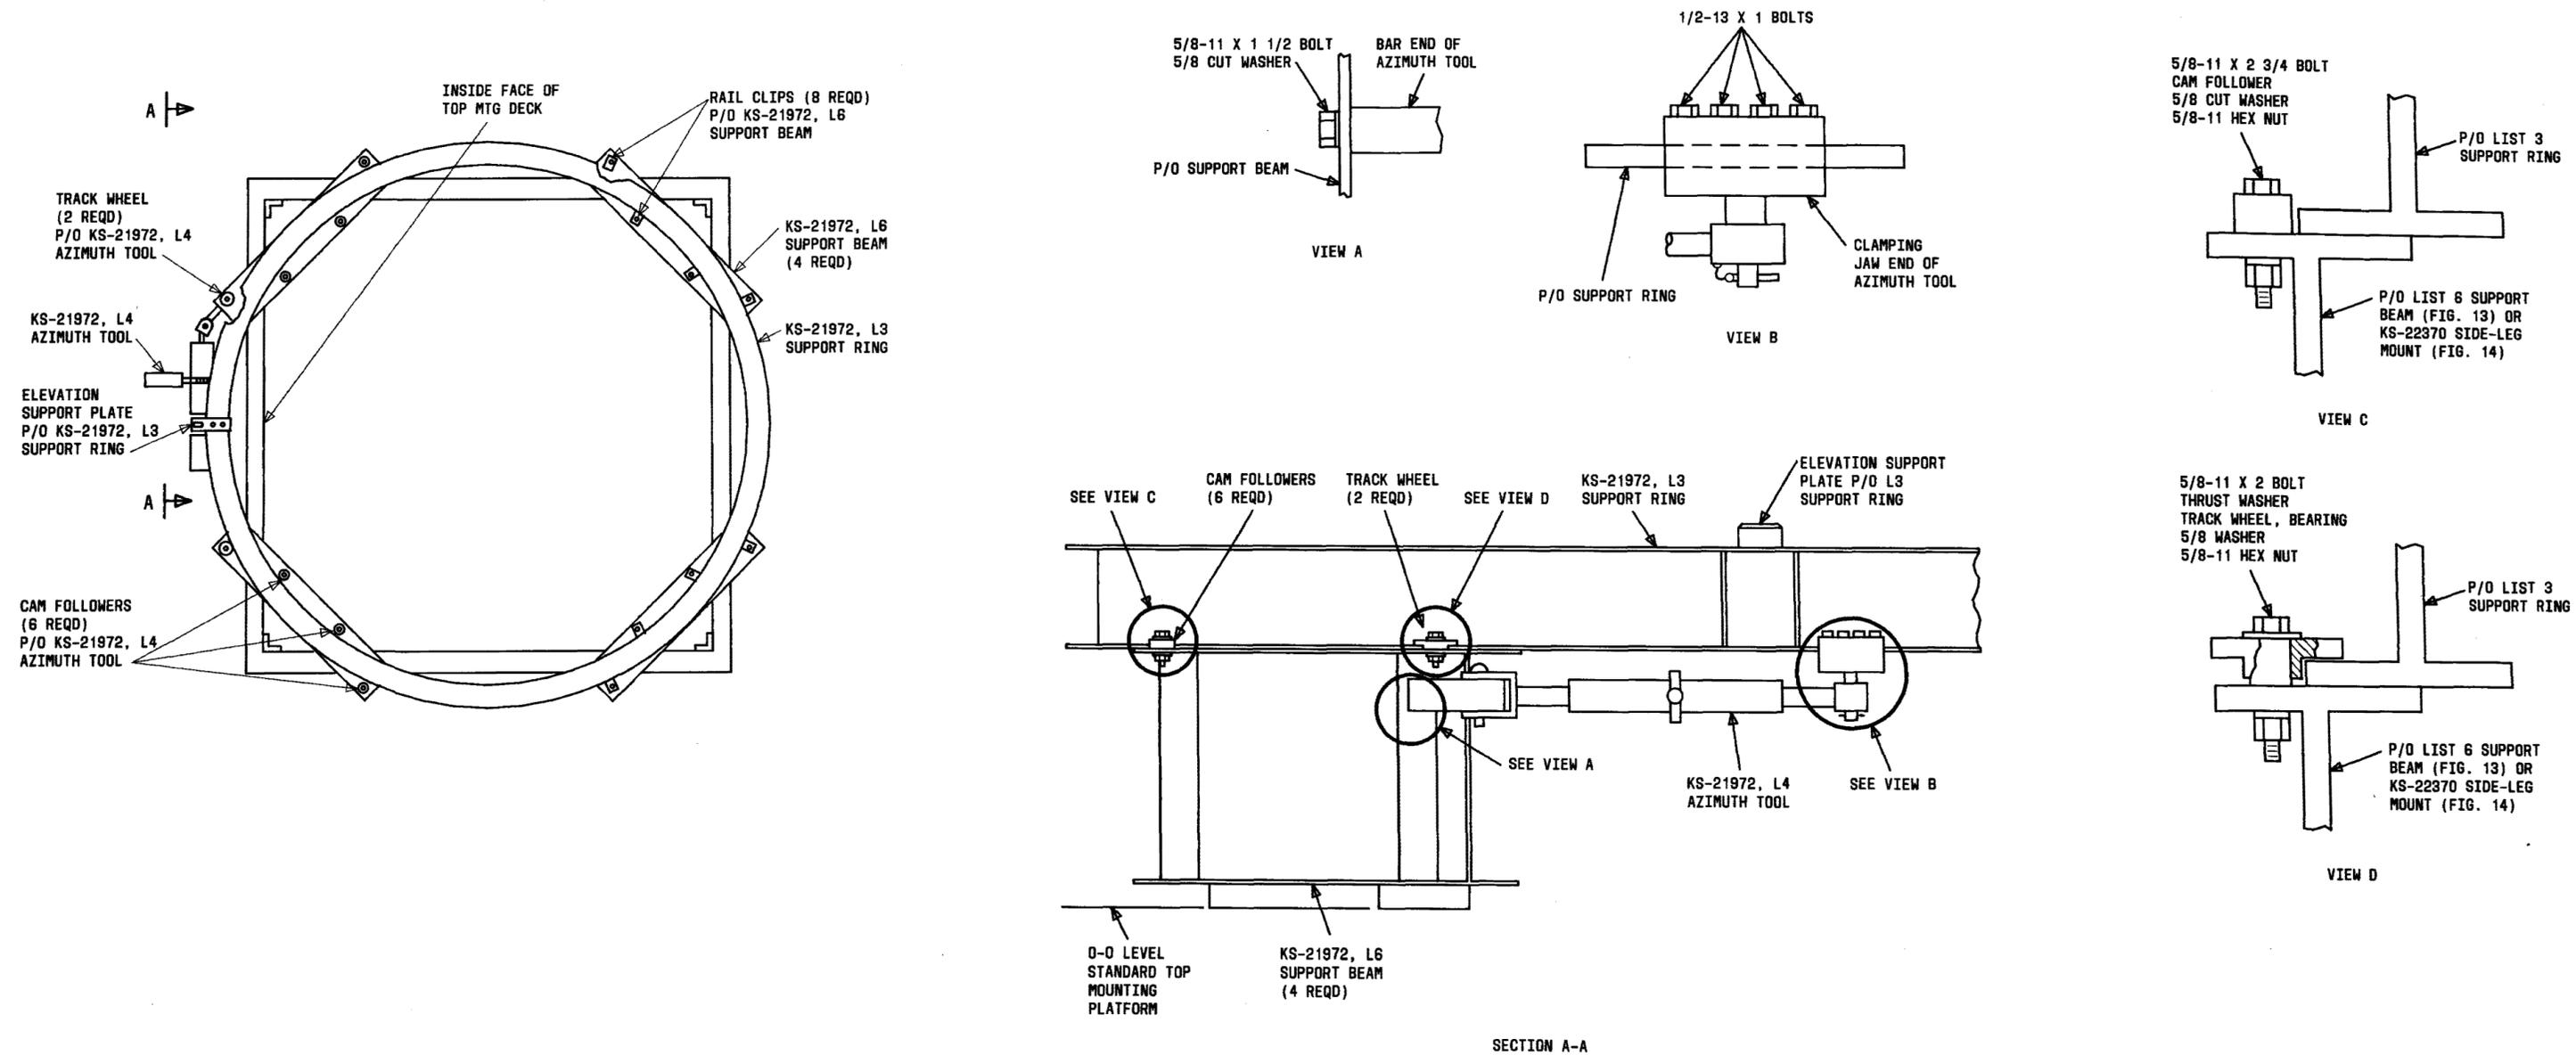

Fig. 13—Assembly of the KS-21972, L4 Azimuth Tool to the L3 Support Ring and L6 Support Beam
M. Assembly of List 4 to Lists 3 and 6 (See Fig. 13)